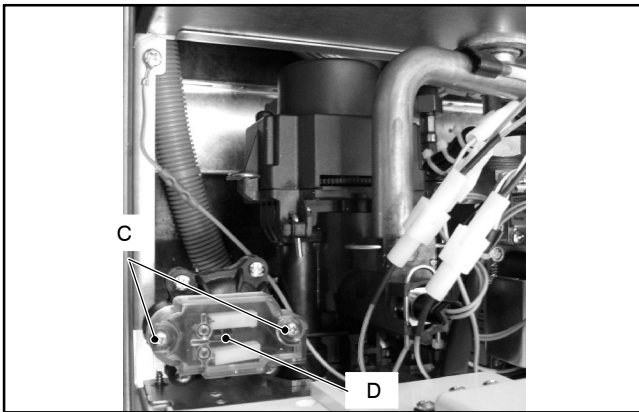

Fig. 61
- 2 Unscrew the screws C that holds the micro-switch housing D (Fig. 61).